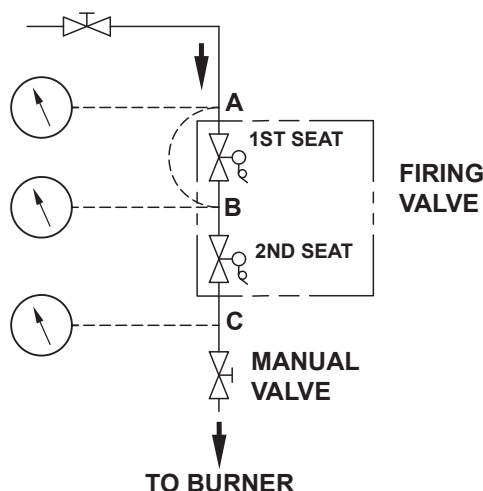

Figure 81. Leak Test Procedure
Test point C is a bleedle valve located downstream of both automatic gas valve seats and upstream of the manual valve. See **Figure 81**.
- a. Close downstream manual gas valve. See **Figure 81**. Turn power on.